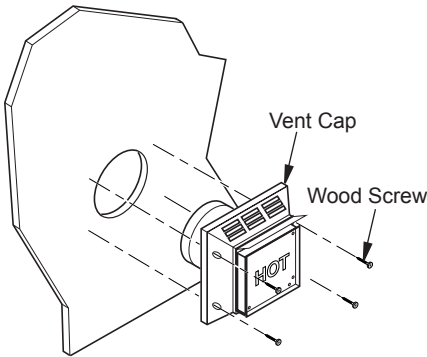

Figure 14 - Installing Horizontal Vent Cap (Noncombustible Exterior)
4. **Noncombustible Exterior Wall:** Apply a bead of non-hardening mastic around the outside edge of the vent cap. Position the vent cap in the center of the 7 1/2" (19.1 cm) hole on the exterior wall with the arrow on the vent cap pointing up. Attach the vent cap with four wood screws provided (see Figure 14, page 13). *Note: Replace the wood screws with appropriate fasteners for stucco, brick, concrete, or other types of siding.*